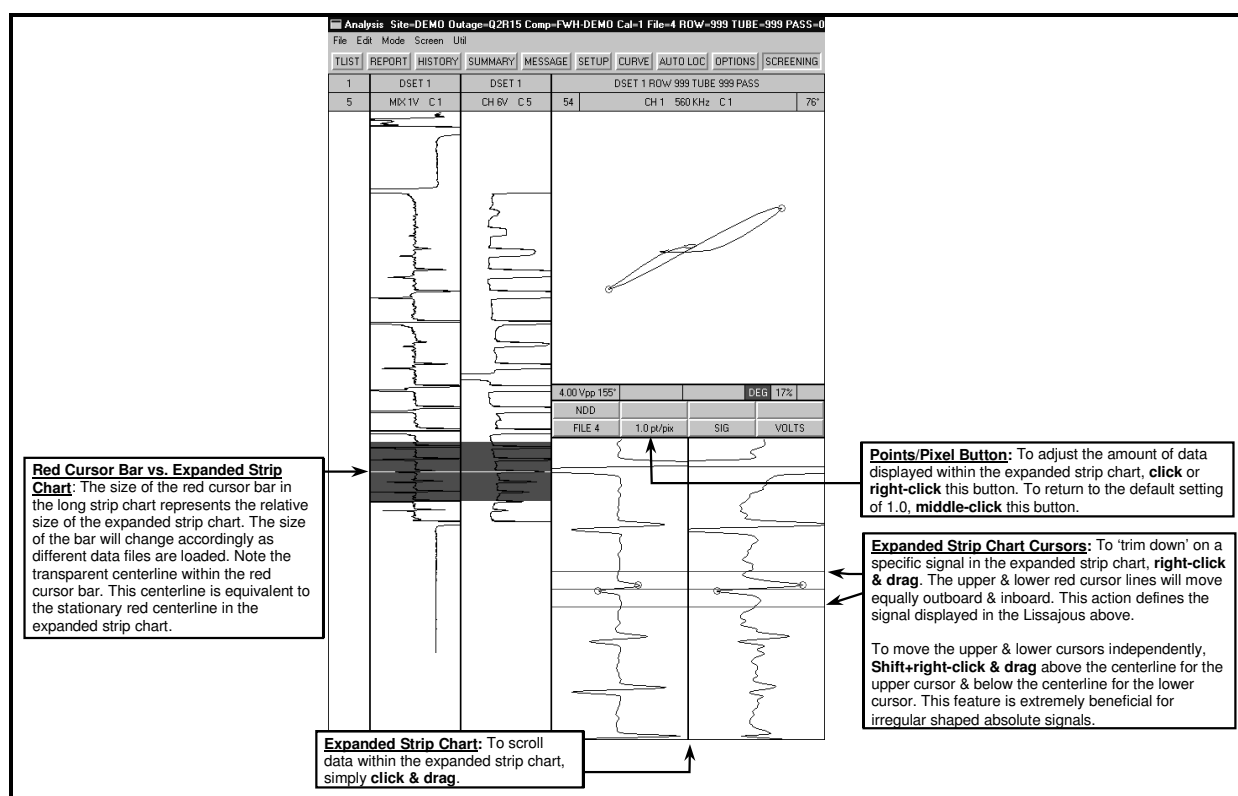

Figure 4-6. The Expanded Strip Chart
Refer to Figure 4-6 for details regarding the expanded strip chart.
- **Clicking or right-clicking the Points/Pixel button** (*see Figure 4-6*) compresses or expands the amount of data displayed in the expanded strip chart, respectively;